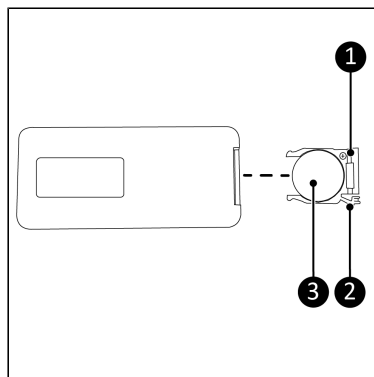

Figure 12.
1. Push the tab (Figure 12, pos. 2) on the battery tray (Figure 12, pos. 1) and pull the battery tray out from the remote control.
2. Remove the old battery (Figure 12, pos. 3) from the battery tray.